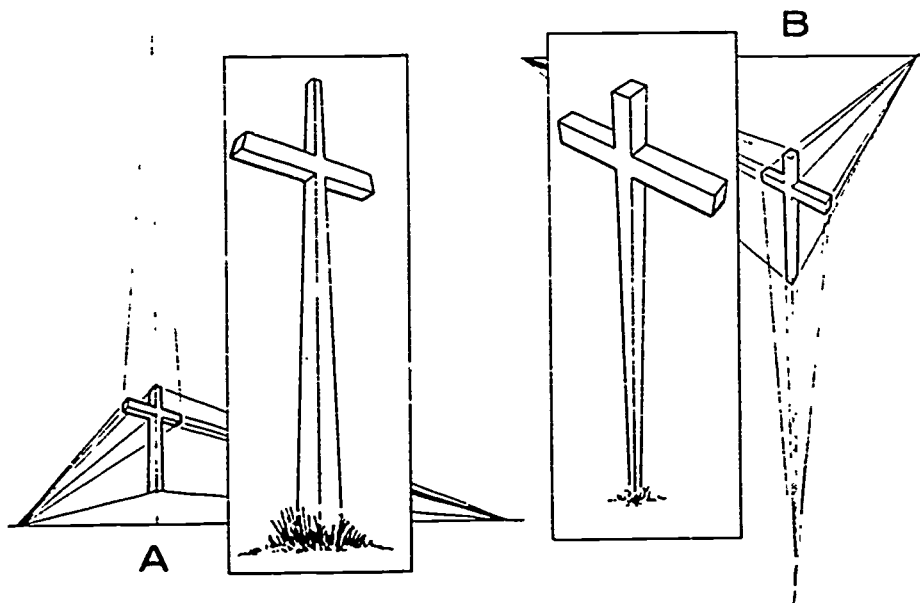

Figure 4-109. Cross.
**Three-point perspective.** Oblique, or three-point, perspective occurs when none of the object's surfaces are parallel to the picture plane. Three-point perspective is usually needed when the station is close to the object and the picture plane is at an angle to the horizon line as shown in figure 4-109. Looking up at a tall building, large trees, or the cross pictured here can produce such a situation. The horizon in this case is usually very low, or entirely below the object being viewed (fig. 4-109,A). If you were looking down from above (fig. 4-109,B), the horizon may or may not appear in the view at all.